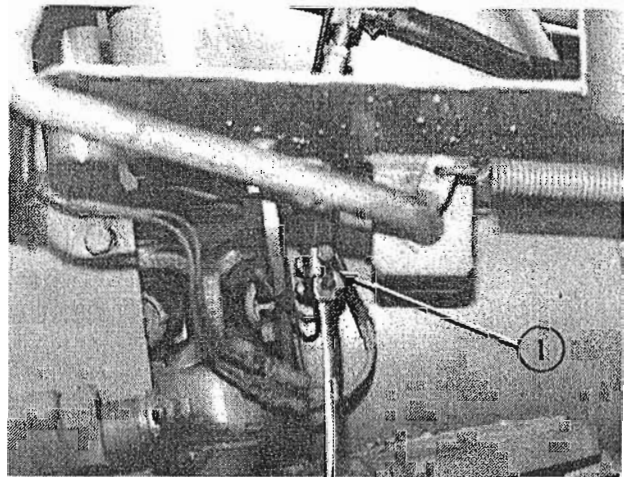

FIG. 2
- (2) Clutch cable under deck plate. (Fig. 2)